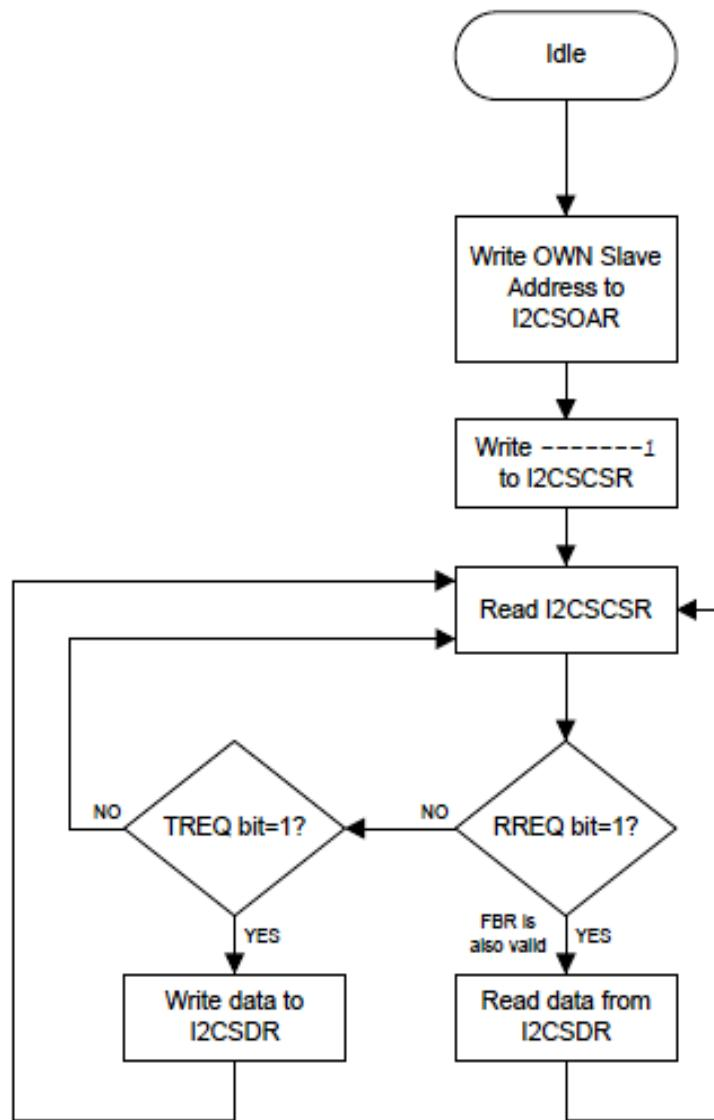

Figure 8.48 The operational sequence of the I2C module working in the slave mode.
- The operational sequence of the I2C module working in the slave mode is shown in Figure 8.48 (next slide). The operational sequence is: